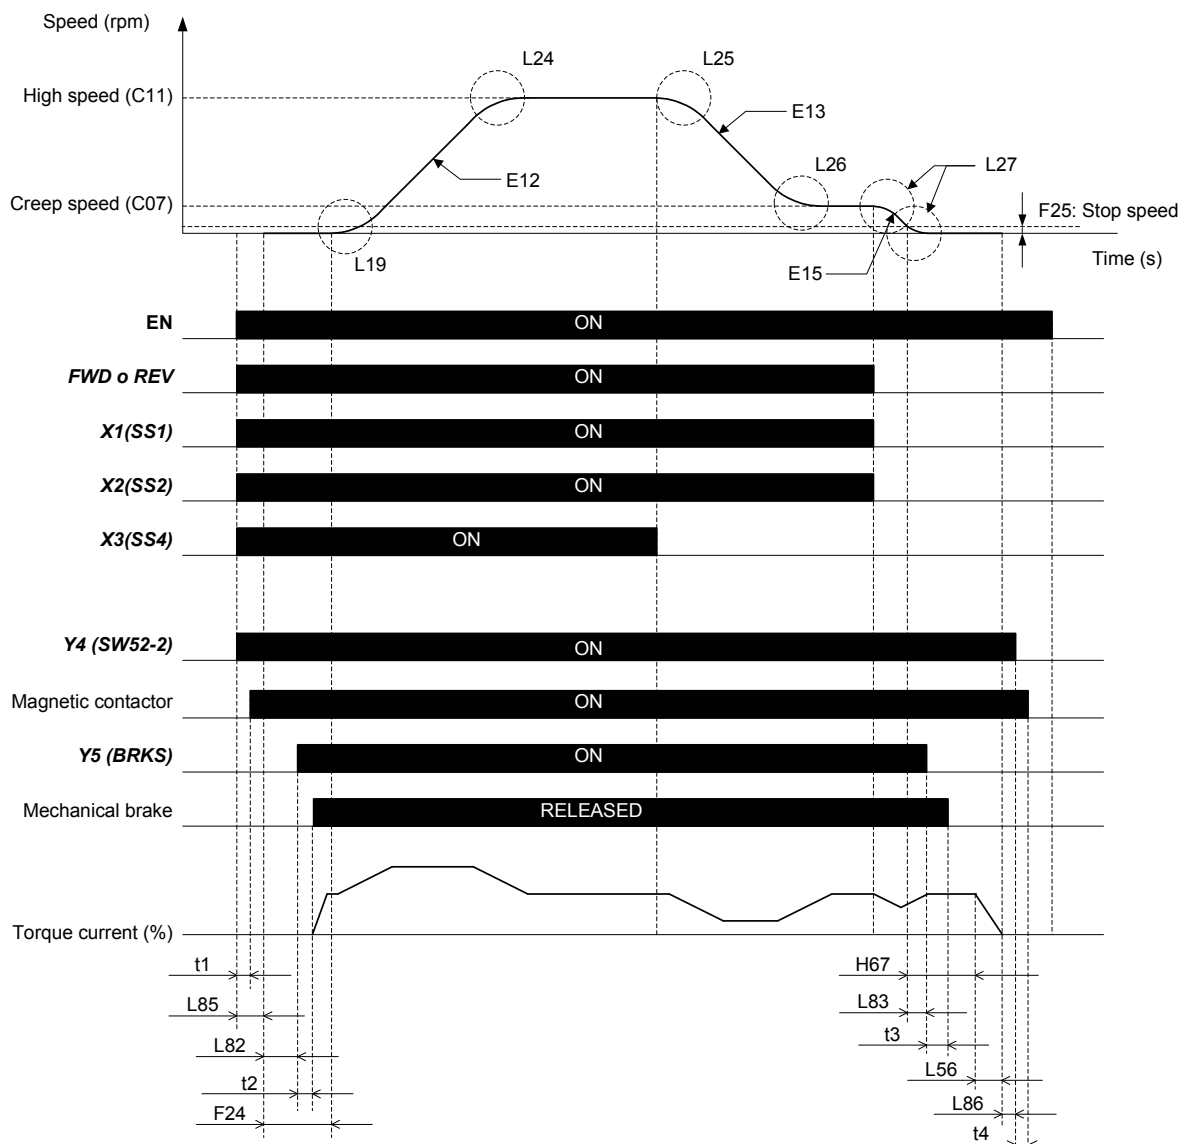

Figure 11.1: Closed loop application time and signals sequence diagram.
Figure 11.1 shows a complete time diagram and signals sequence in case of closed loop application. It shows a standard travel with a lift controlled by digital inputs with high and creep speed. In this case, induction motor and PMS motor are equivalent.
- Figure 11.1 is a travel example where brake and main contactor signals are controlled by the inverter. If these signals are controlled by the lift controller, timing might differ.
12.Signal timing diagram for open loop control (IM)